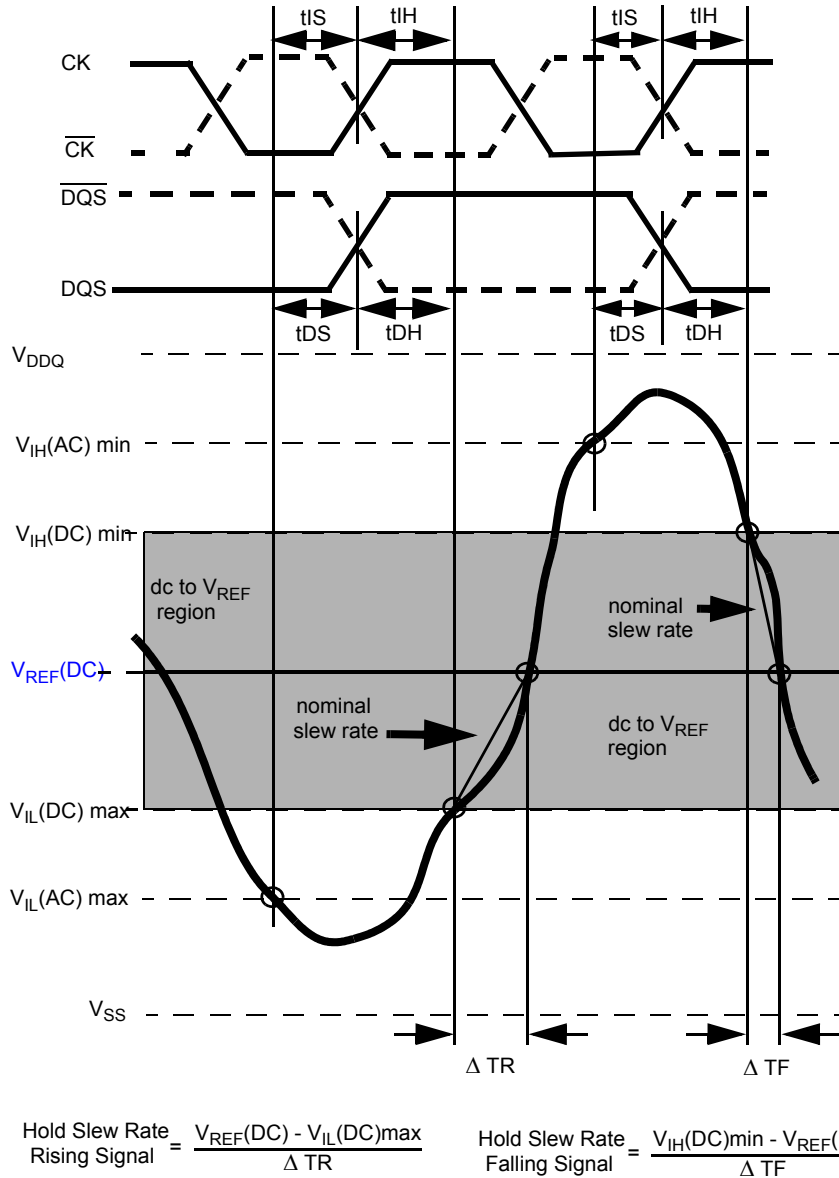

Figure 22. Illustration of nominal slew rate for hold time t_{DH} (for DQ with respect to strobe) and t_{IH} (for ADD/CMD with respect to clock).
Hold (tIH) nominal slew rate for a rising signal is defined as the slew rate between the last crossing of V_{IL}(DC) and the first crossing of V_{REF}(DC). Hold (tIH) nominal slew rate for a falling signal is defined as the slew rate between the last crossing of V_{IH}(DC)min and the first crossing of V_{REF}(DC). If the actual signal is always later than the nominal slew rate line between shaded 'dc to V_{REF}(DC) region', use nominal slew rate for derating value (see Figure 22). If the actual signal is earlier than the nominal slew rate line anywhere between shaded 'dc to V_{REF}(DC) region', the slew rate of a tangent line to the actual signal from the dc level to V_{REF}(DC) level is used for derating value (see Figure 24).